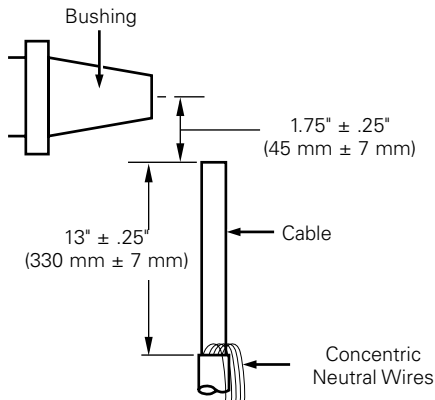

Figure 15. Line illustration of removing concentric neutral wires.
- Measure 13" (330 mm) from end of cable. (Refer to Figure 15.)
- For unjacketed neutral cable, bind neutral wires using three (3) wraps of tape at 14.75" dimension.